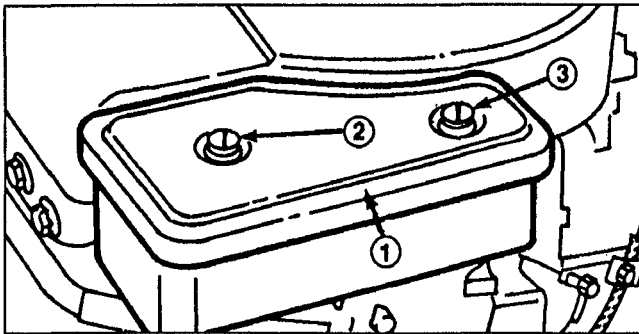

Figure 20
2. Remove air cleaner stud, screw and cover. Replace cover gasket if damaged (Fig. 20).